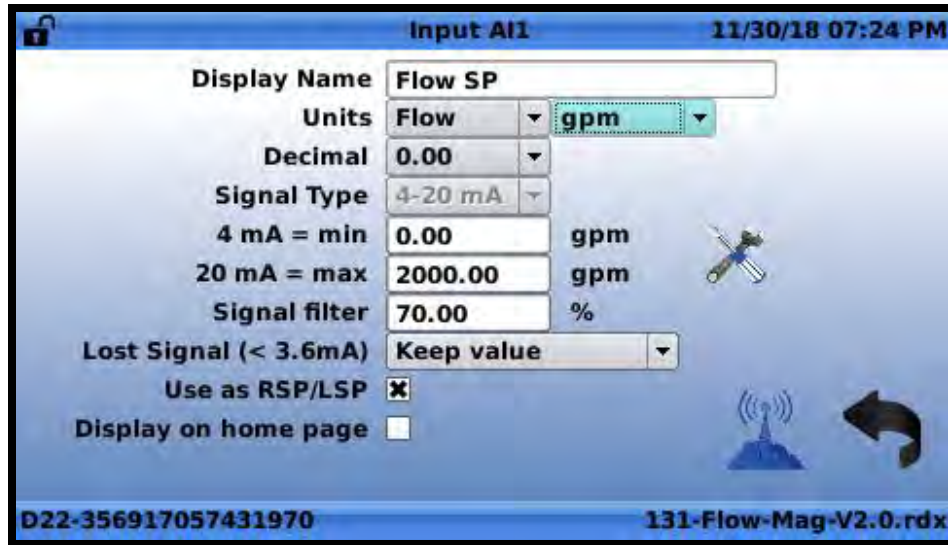

Figure 4.22
1. Use the “Up” and “Down” buttons to highlight a drop down field. When the field is highlighted, the background color will turn from light gray to light blue as shown in **FIGURE 4.22**: